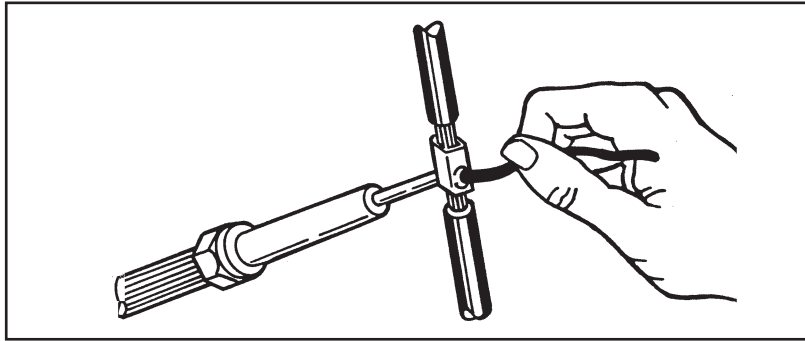

Figure 32
4. Apply solder to the hole in the splice clip as shown in Figure 32. Use just enough solder to produce an even flow through the splice clip.